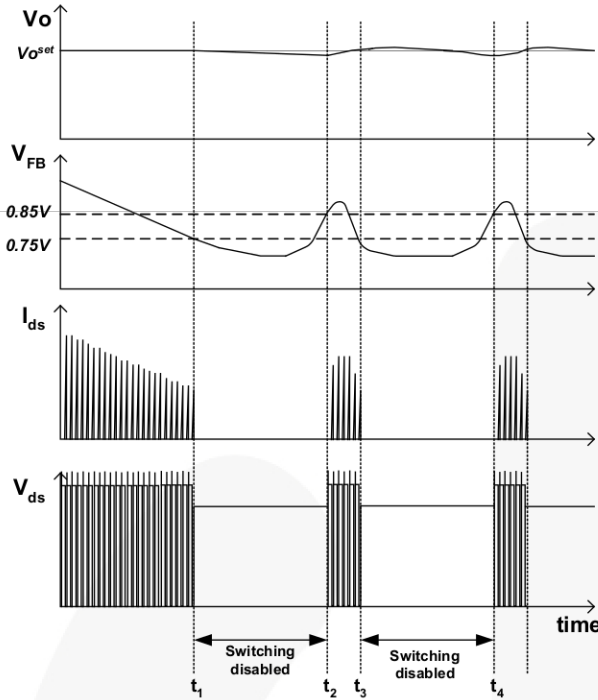

**Figure 17. Overload Protection**
**4.1 Overload Protection (OLP):** Overload is defined as the load current exceeding its normal level due to an unexpected event. In this situation, the protection circuit should trigger to protect the SMPS. However, even when the SMPS is in the normal operation, the overload protection circuit can be triggered during the load transition. To avoid this undesired operation, the overload protection circuit is designed to trigger only after a specified time to determine whether it is a transient situation or a true overload situation. Because of the pulse-by-pulse current limit capability, the maximum peak current through the SenseFET is limited and, therefore, the maximum input power is restricted with a given input voltage. If the output consumes more than this maximum power, the output voltage ( $V_o$ ) decreases below the set voltage. This reduces the current through the opto-coupler LED, which also reduces the opto-coupler transistor current, increasing the feedback voltage ( $V_{FB}$ ). If  $V_{FB}$  exceeds 2.8 V, D1 is blocked and the 5  $\mu$ A current source starts to charge  $C_B$  slowly up. In this condition,  $V_{FB}$  continues increasing until it reaches 4.7 V, when the switching operation is terminated, as shown in Figure 17. The delay time for shutdown is the time required to charge  $C_B$  from 2.8 V to 4.7 V with 5  $\mu$ A. A 20 ~ 50 ms delay time is typical for